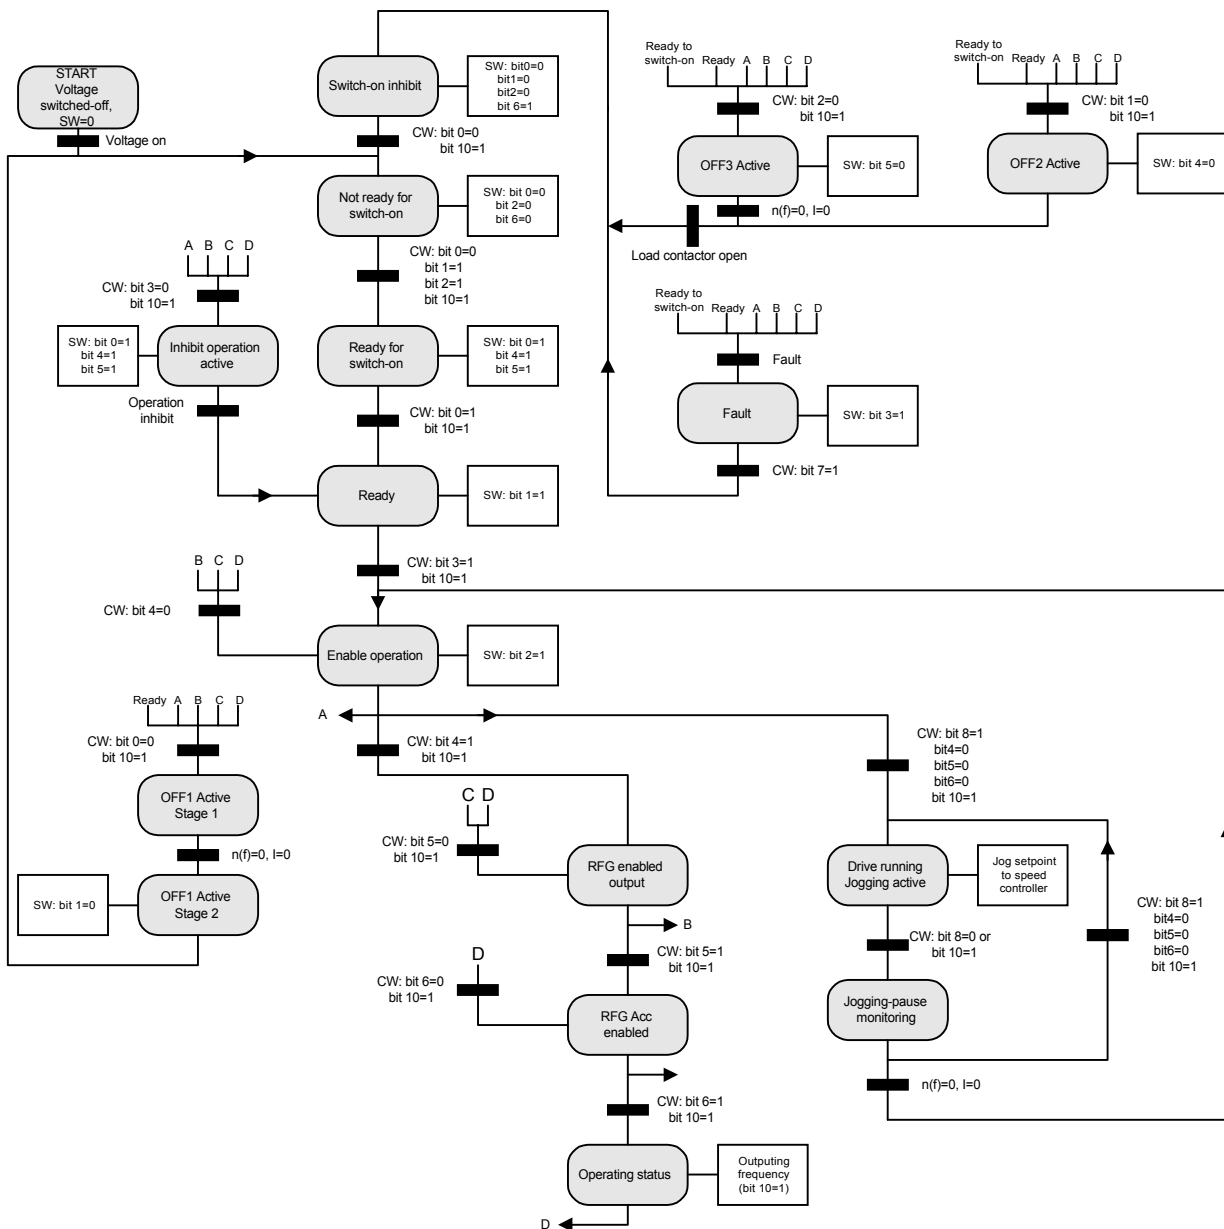

Figure 5-2 Profidrive state diagram
This section describes how to operate the inverter with the control-/status word. With the control word the Profidrive state-machine (Figure 5-2) is controlled, the status word is reflecting the state of the inverter.
*To start the inverter the Profibus state machine must be shifted in a correct way. This may be done in two steps. First the control word should be set to 04 06 (Enter *Ready to switch-on state*) and then to 04 7F (Enter *Operating state*). Refer to the state diagram in Figure 5-2.